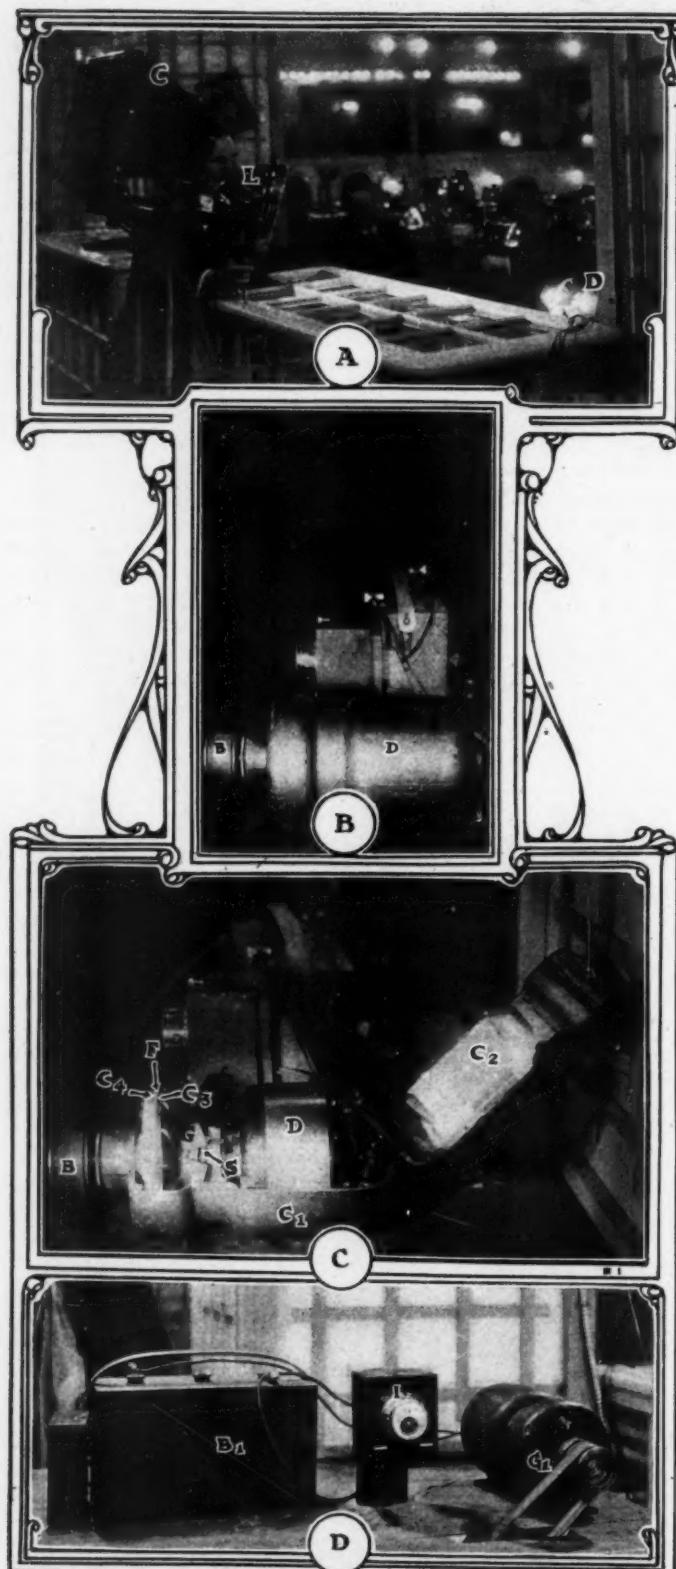

Fig. 2—(A) Presents Gray & Davis electric lighting system in operation aiding the camera
What This System Comprises—Referring to (A) Fig. 2, and to C in the figure, which is a camera, it will be noted that the same is focused on a dynamo D in the figure, and the photograph was taken utilizing the actinic rays, which emanated from the searchlight L just below and to one side of the camera. This illustration indicates that the light is of high intensity, and the
In order to indicate the compactness of the lighting dynamo, B, Fig. 2, is offered in which D is the dynamo, showing the exterior, and how thoroughly it is enclosed, while B is the belt running over a pulley, which also connects over a driving pulley, placed at some convenient point on a driving member of the automobile motor. The power which comes from the automobile motor is subject to wide speed variations, and these variations are transmitted along the belt B, thence to the dynamo pulley and shaft which protrude out through the shell D of the dynamo.
In order to appreciate the operation of the dynamo, it will be necessary to examine the interior, for which purpose (C) Fig. 2 is presented, in which C₁ is the base half of the protecting shell, C₂ is the detachable half of the same, D presents the dynamo, which connects its armature shaft with the shaft protruding through the case to the pulley, over which the belt B runs. In order to be able to vary the speed of the driving member (the automobile motor) without suffering speed changes of the armature of the dynamo D, a governor G, under the influence of centrifugal force modified by the pressure of the spring S, is then utilized to excellent advantage.
The pressure of the transmitting faces of the friction members is but slight, it being the case that the output of the dynamo is 60 watts, which is not so very great, in view of the fact that there are 746 watts in one horsepower. It required a good deal of experimenting to arrive at the correct proportions of the governor weights G, and the proper resistance offered by the opposing spring S. The performance will be obvious from what has been said, considering the clearness of the view C, Fig. 2. It simply follows that one of the clutch members is sleeved, which permits axialewise motion, but the load on the dynamo being nearly constant, in view of the use of a storage battery, permits of designing the governor so that the slippage on the disc faces will be in conformity with the requirements.
Referring to (D) Fig. 2, G₁ is the dynamo, looking at the pulley end I₁ represents the measuring instrument which is used to ascertain the potential difference in volts across the terminals of the battery and the same instrument, by suitably manipulating, tells the output of the dynamo or battery in amperes. The battery is shown as B₁, there being three cells within a suitably contrived hard-wood case.